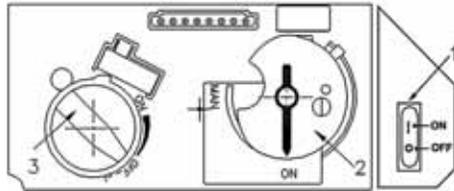
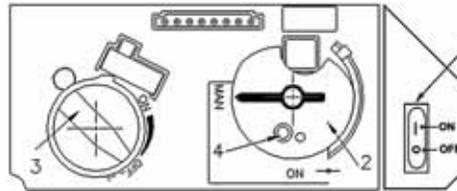
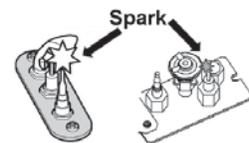

Fig 1
Fig 2
Fig 3
2. SET ON/OFF SWITCH (1) TO "OFF" POSITION.
- Wait five (5) minutes to clear out any gas, then smell for gas, including near the floor. If you smell gas, STOP! Follow "B" in the safety information above on this label. If you don't smell gas, go to the next step.
3. AUTOMATIC IGNITION (fig. 1): Locate the pilot (fig. 3.) inside of firebox at Left Hand side.
- ON/OFF switch (1) in ON position, MAN-knob (2) in ON position; set Flame Adjustment knob (3) to lowest setting (C);
- When the pilot is lit, the Flame Adjustment knob (3) will automatically rotate to the highest setting.
4. MANUAL IGNITION (fig. 2): With the window off, locate the pilot (fig. 3) inside of firebox at Left Hand side;
- ON/OFF switch (1) in ON position, MAN-knob (2) in MAN position;
- Set Flame Adjustment knob (3) to the lowest setting (C);
- Push down the metallic core (4) with a pen or similar instrument; this will establish the pilot gas flow; Light gas at the pilot (5) with a match;
- Continue holding down metal core (4) for about 10 seconds; after release, pilot should remain lit;
- If the pilot will not stay lit after several tries, turn the gas control knob (3) to "OFF" (C) and call your local service technician or gas supplier.